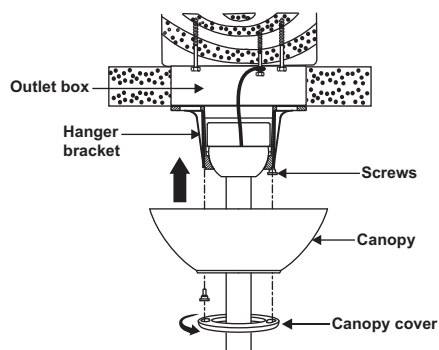

Figure 13
Step 2. Slide the canopy up to hanger bracket and place the key hole on the canopy over the screw on the hanger bracket, turn canopy until it locks in place at the narrow section of the key holes. (Fig.13)